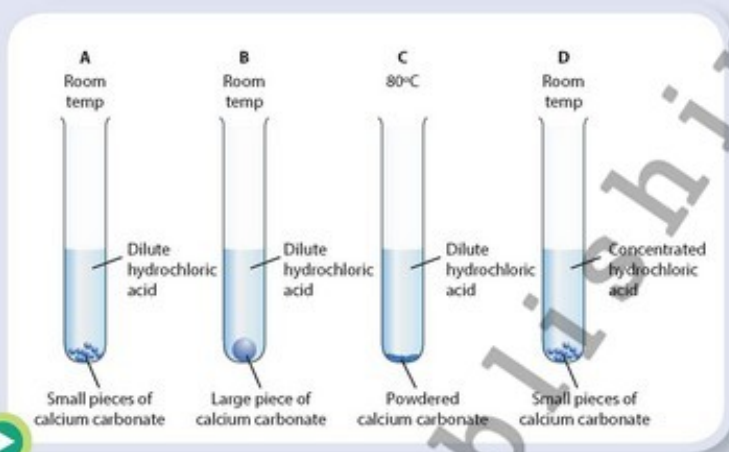

Figure 3.15
3.19 Place the reactions in Figure 3.15 in order of increasing rate of reaction.